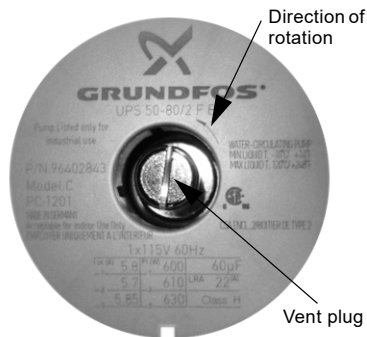

Fig. 11 Vent plug and direction of rotation
4. Bump the pump and watch to see which direction the shaft rotates. The shaft must rotate in the counterclockwise direction as shown on the nameplate (see fig. 11).